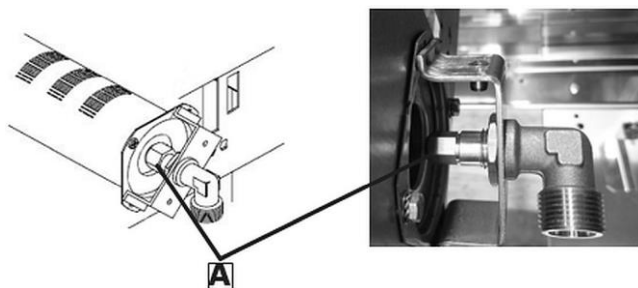

Fig. 7
3. Unscrew the main burner nozzle **A** (Fig. 7).